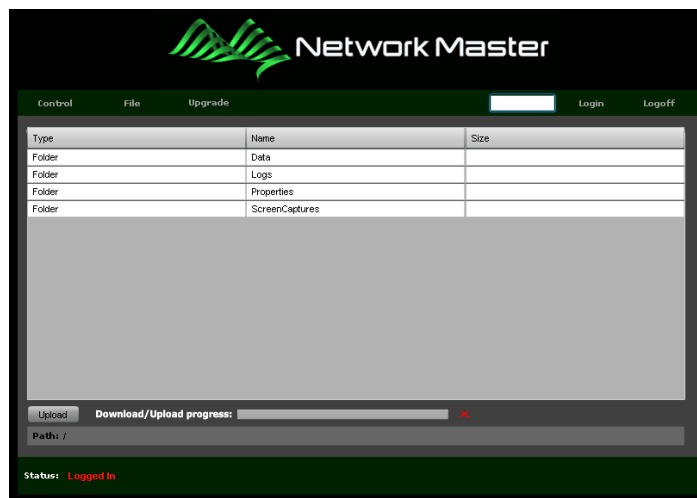

Figure B.2-5 Remote Client (File Menu)
2. The screen shown in Figure B.2-5 will be displayed.